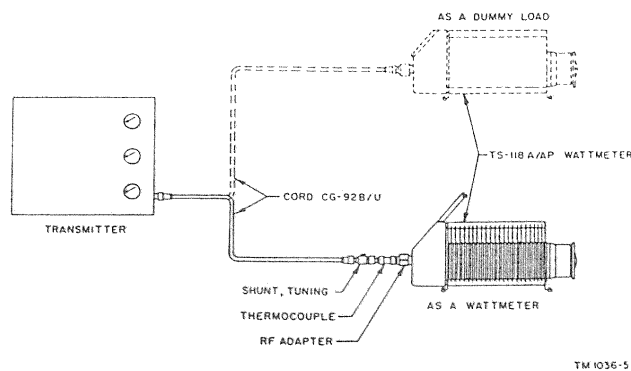

Figure 5. Connections to Wattmeter
(1) The load unit of the wattmeter is an excellent termination for 50-ohm coaxial lines in the frequency range of 20 to 1400 megacycles. The load will handle its rated power in this range and can be expected to have a VSWR of better than 1.25 to 1.
(2) To use the Wattmeter TS-118A/AP as a dummy load only the following procedure should be followed: See Fig. 5.